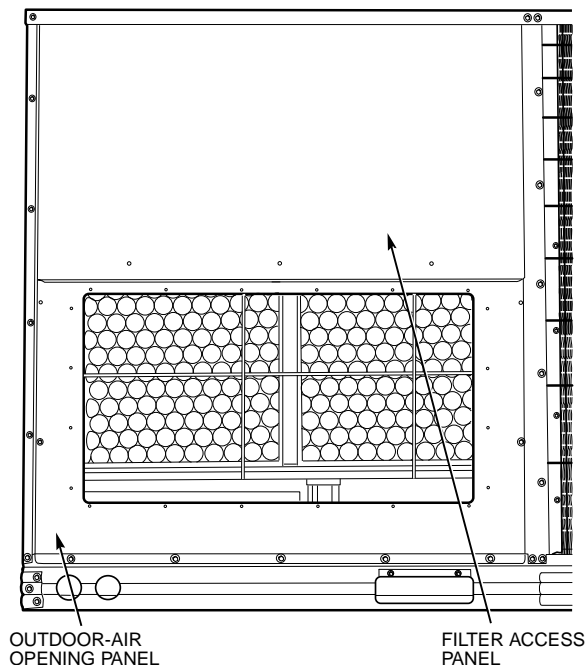

Fig. 18 — Access Panel Locations
2. Remove filter access panel by raising panel and swinging panel outward. Panel is now disengaged from track and can be removed. No tools are required to remove filter access panel. Remove outdoor-air opening panel. Save panels and screws. See Fig. 18. Remove optional economizer and outdoor-air damper hood package from filter section.
2. Remove filter access panel by raising panel and swinging panel outward. Panel is now disengaged from track and can be removed. No tools are required to remove filter access panel. Remove outdoor-air opening panel. See Fig. 18. Save panels and screws. Remove optional economizer so the outdoor-air damper hood package can be removed from the filter section.